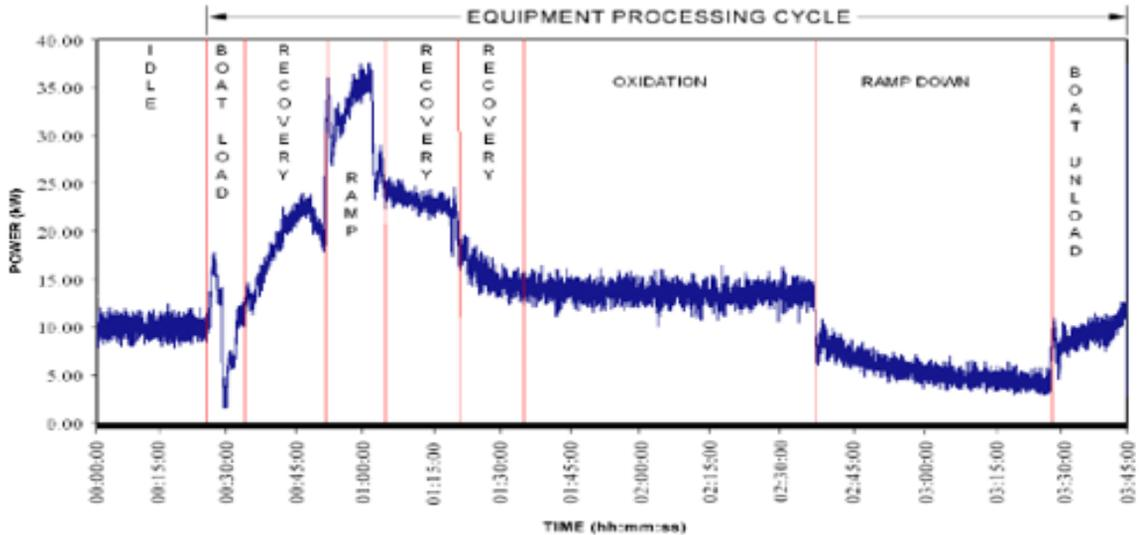

Figure 1
- ❖ Figure 1 of SEMIE6 (Figure 1) Use the Power Characterization Plot and Data Sheet 400 – Electrical Power to set the Sensitive process states section.